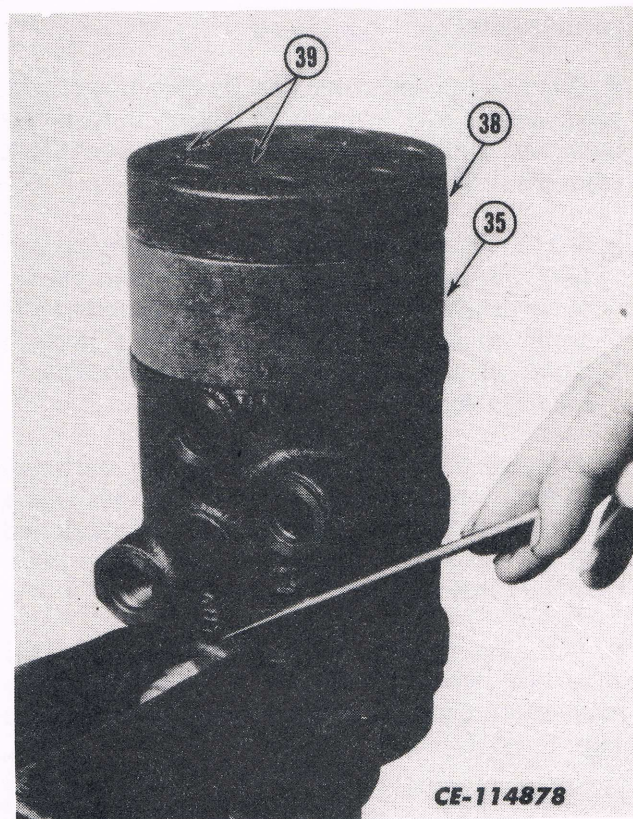

Fig. 6
1. Remove the dirt seal (2) and discard it.
2. To prevent possible distortion or damage to the unit if placed directly in a vise, the following procedure should be used: Insert an "O" ring tube fitting with tube nut or fitting cap attached, into one of the threaded ports in the housing. Clamp the fitting in a vise in a manner which will locate the seven end cover bolts in an upright position. (See Fig. 6).
3. Unscrew the seven special bolts (39) from the end cover (38).